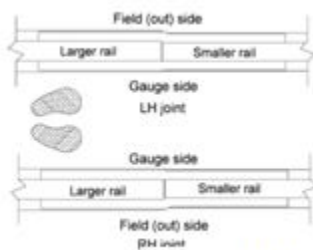

Figure 111B *Compromise Weld Identification*
Stand in between rails with back towards larger rail and face the smaller rail. The joint on the left side would be designated as the left-hand (LH) joint, and the joint on the right side would be designated as the right-hand (RH) joint. (See Figure 111B)